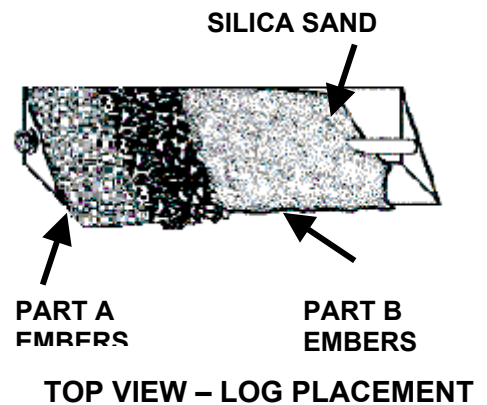

Figure 5
3. Use the pictures in Fig. 5 as a reference for stacking. (See Figure 5.)